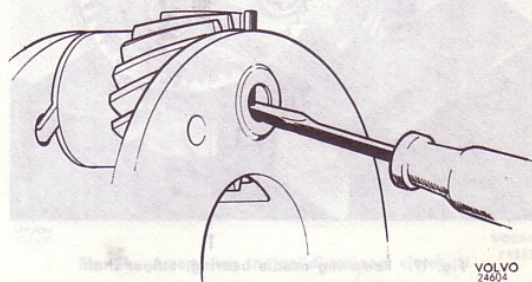
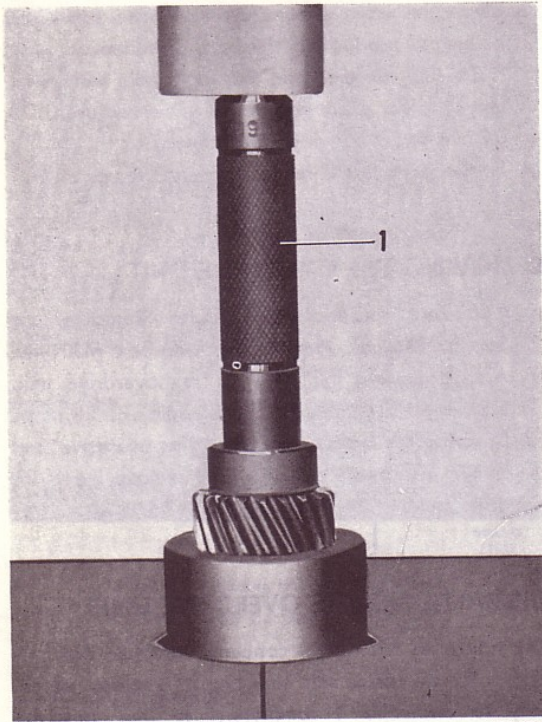
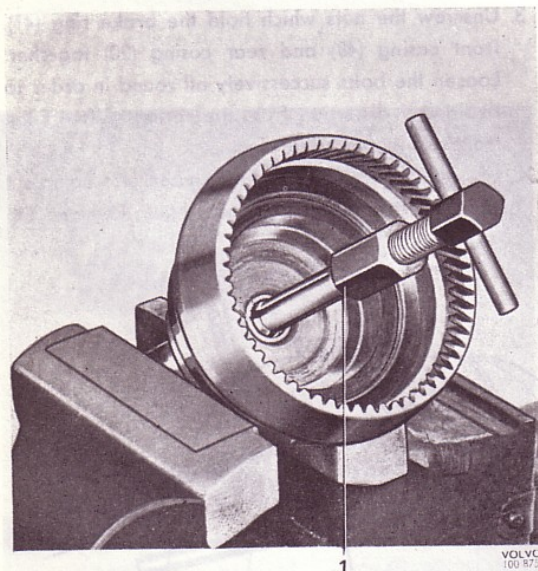

Fig. 15. Removing locking pins in planet gear shafts
Fig. 16. Removing needle bearing in planet gear
Fig. 17. Removing needle bearing, output shaft
5. Lift off the planet gears (38) and planet carrier (45). Remove the locking pins (42) for the planet gear shafts by first pressing them out with a drift or similar, see Fig. 15, and then removing them with pliers. If this cannot be done, drill out the pins with a suitable drill. Press out the planet gear shafts and remove the planet gears. The planet gear needle bearing can be pressed out with drift SVO 2417, Fig. 16.
6. Loosen the screw and pull out the bush and speedometer pinion. Loosen the nut for the coupling flange (26). Pull off the flange. Use puller SVO 2261 for round flanges and SVO 2262 for other types. Place the housing in a press and press out the output shaft (25).
7. Remove the circlip (36) (late production) and oil thrower (retaining washer) (35) which holds the uni-directional clutch on the output shaft. Lift out the parts of the uni-directional clutch. Remove the thrust washer (32). If necessary, pull out the needle bearing (31) in the output shaft with tool SVO 2423, see Fig. 17. Pull off the bearing on the output shaft with a suitable puller.